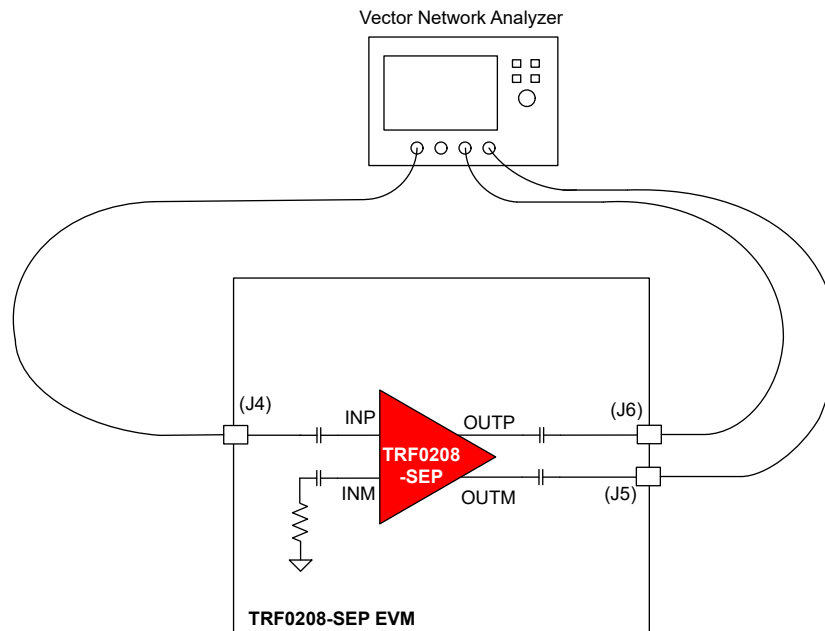

Figure 3-1. S-Parameter Test Setup
1. As Figure 3-1 shows, the S-parameter measurement is typically done using a Vector Network Analyzer (VNA). For measuring the TRF0208-SEP EVM, a 3-port VNA is recommended which can generate single-ended and receive differential signals at the input and output ports of EVM respectively.